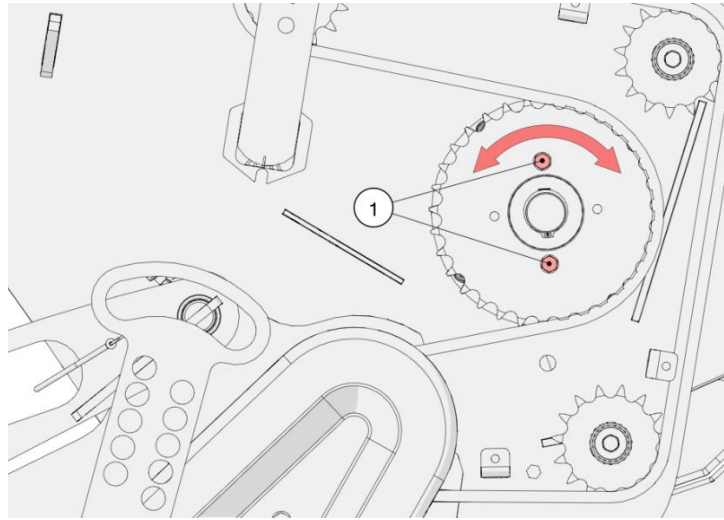

Figure 62. Replacing the lock bolts
- Remove the sheared lock bolts (1) and make sure no parts of the damaged bolts still remain between the driving components (Figure 62);
- Use a wrench to turn the rotor and set the holes of the safety element in such a position, which enables installing new lock bolts (1), and tighten them;